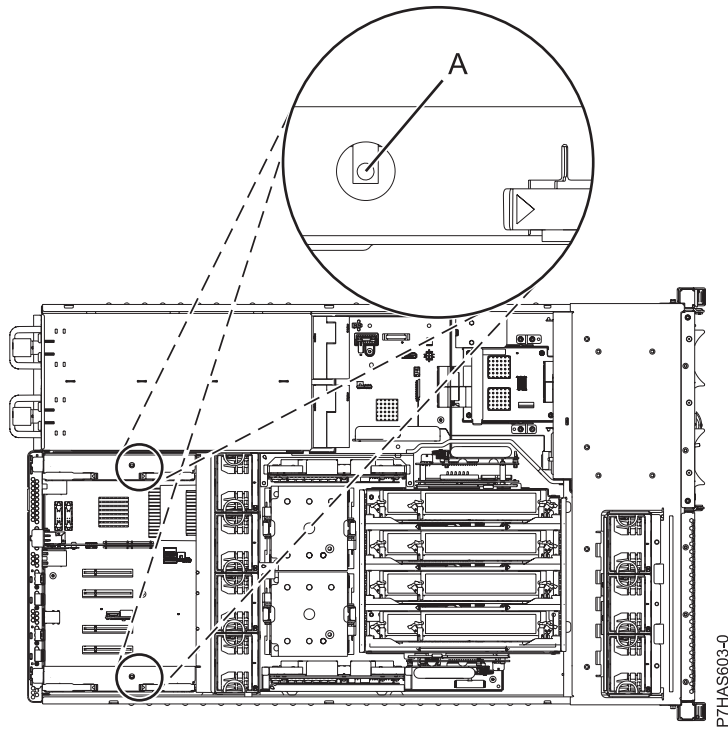

Figure 4. GX adapter LEDs
Figure 4 on page 6 shows the LEDs (A) associated to the GX adapters.